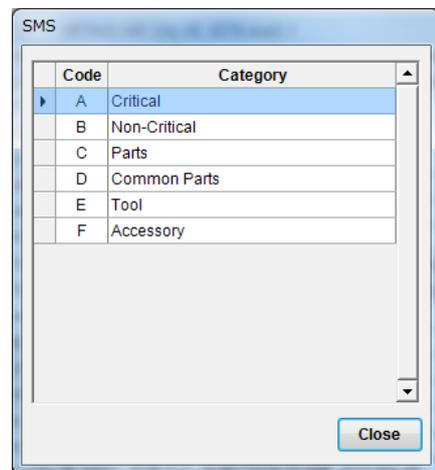

Fig.18-4 SMS Screen
- (2) "Type Dialog "(Fig.18-4) is displayed.